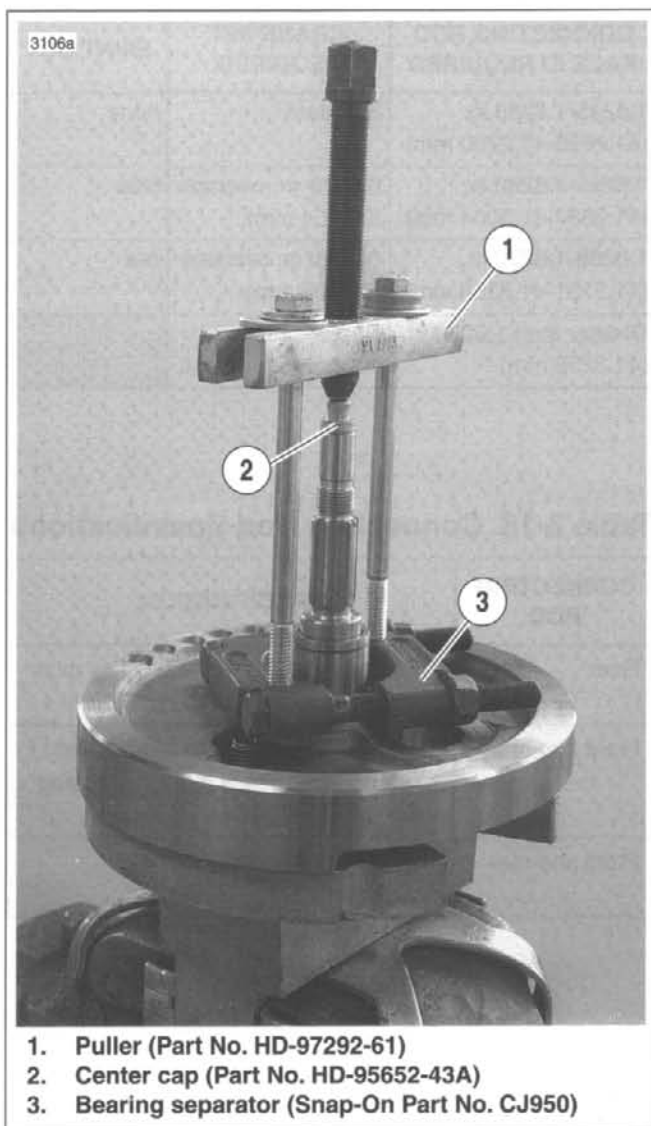

Figure 3-105. Pulling Pinion Shaft Inner Race
See Figure 3-105. To remove pinion shaft inner race, use TWO CLAW PULLER (Part No. HD-97292-61), CENTER CAP (Part HD-95652-43A), and BEARING SEPARATOR (SNAP-ON TOOLS Stock No. CJ950). Apply heat to race to aid removal. Four sizes of pinion bearings are available. Pinion bearing selection at the factory, during engine rebuild, or replacement of crankcase set or flywheel assembly is based on the largest measured outside diameter (OD) of the inner race and the smallest measured inside diameter (ID) of the outer race (crankcase bushing). A running clearance of 0.0002-0.0008 in. (0.0051-0.0203 mm) is established during crankcase set or flywheel assembly replacement and engine rebuild.
7. See Figure 3-105. Pull inner race from pinion shaft using TWO CLAW PULLER (Part No. HD-97292-61), CENTER CAP (Part No. HD-95652-43A), and BEARING SEPARATOR (SNAP-ON TOOLS Stock No. CJ950). Apply heat to race to aid removal.